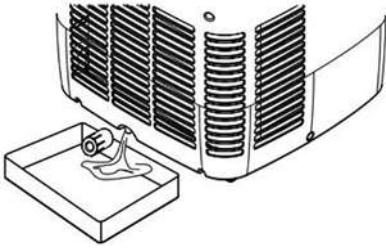

Fig.1
- Before storage, be sure to pull out the rubber plug of the drain port underside (#10), and allow the water to drain out in a basin. (fig. 1) Run the unit in fan mode only for a few hours to dry any moisture on the coils to prevent mold.